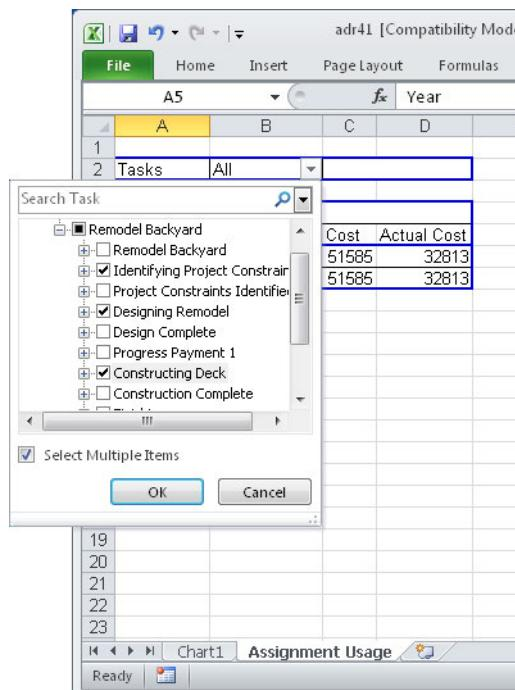

FIGURE 9-13 Select check boxes to include the items in the chart. Clear check boxes to omit the items.
4. To select multiple items in the pivot table, choose the Select Multiple Items check box. Select the check boxes for items you want to include, as shown in Figure 9-13, and then click OK.